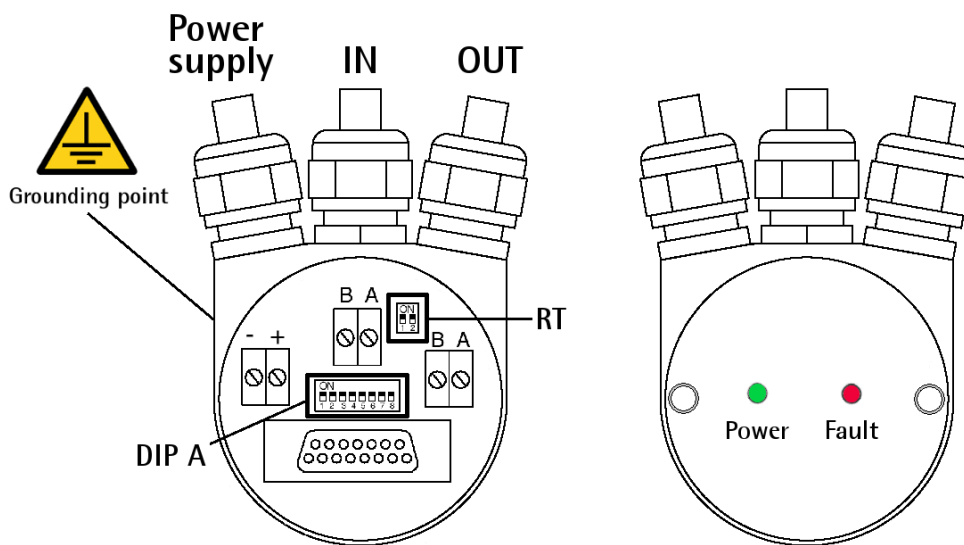

Figure 1
4.3 Connection cap with PGs -CC-PB- (Figure 1)
4.6 Node address: DIP A (Figure 1)
After having set the device address, please check the bus termination switch position (see section "4.8 Bus termination (Figure 1)" on page 19).
4.8 Bus termination (Figure 1)
4.9 Diagnostic LEDs (Figure 1)